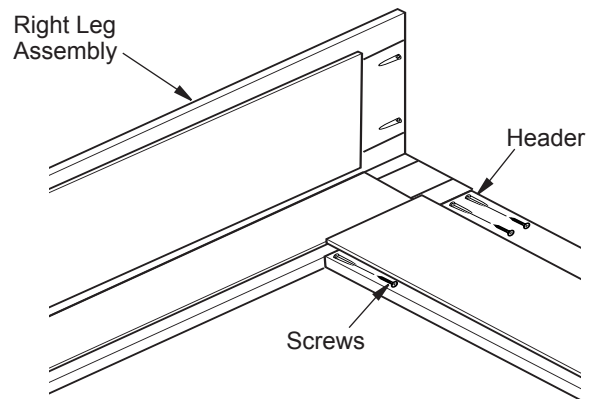

**Figure 1 - Assembling Legs**
1. Some models require side/corner assembly. For these models, lay leg side on floor. Position leg as shown in Figure 1. Align predrilled screw holes in leg and leg side. Make sure ends are flush. Attach with two or three 1 1/4" wood screws, depending on your model. Repeat for other leg.